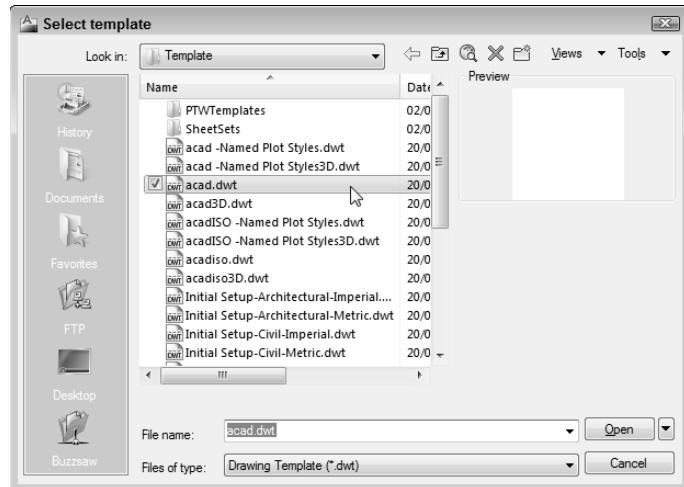

Figure 3-2:
3. Select acad.dwt [acadiso.dwt], as shown in Figure 3-2, and click Open. (For AutoCAD LT, select acadlt.dwt [acadltiso.dwt].)